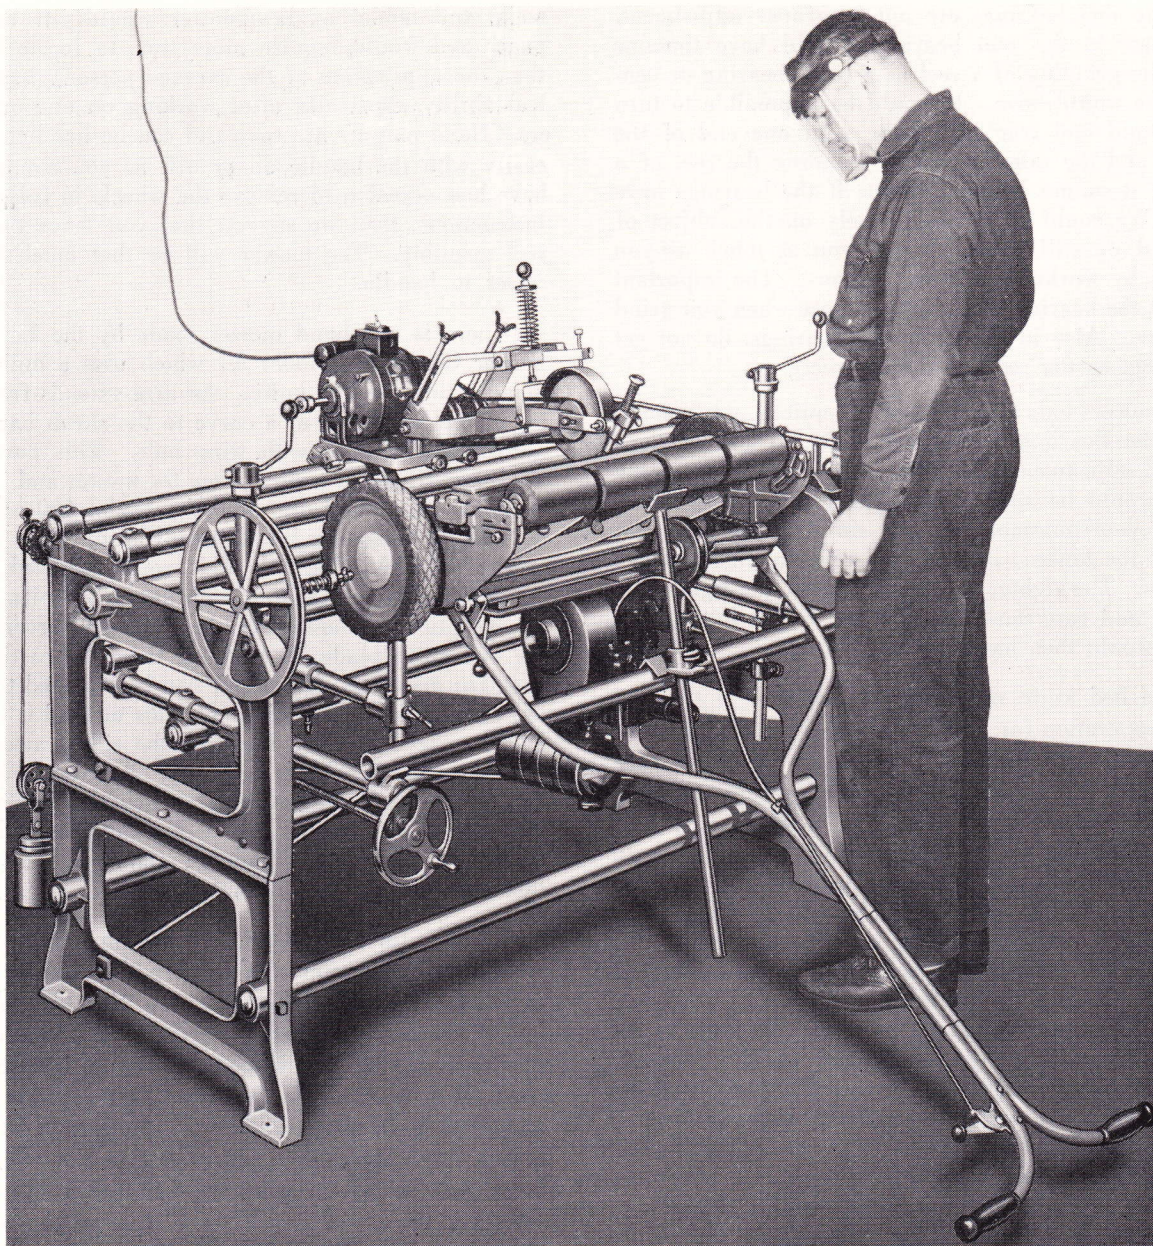
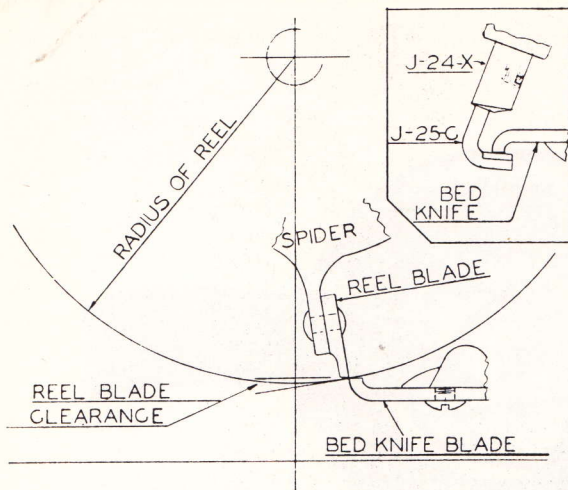

Fig. 14
Fig. 15
74. Choose the most suitable pair of mower supports for the mower to be sharpened and place them in position in the Peerless. If the point supports are used, pre-set them by measuring the hole spacings on the mower. Place the mower in the Peerless inverted as shown in the various illustrations. Figure 14 shows a home-type power mower in position. Place the roller support assembly under the roller and adjust the roller rest supporting pipe in or out until the roller support is about vertical. (See Fig. 14). The roller rest supporting pipe is adjusted by moving the supporting castings on the P-447 shafts at either side of the machine.
level, (as though it were in mowing position set up side down). See Fig. 14. This should make the bottom of the bed knife blade about level as in Fig. 15. Move the mower supports out against each side frame to eliminate any possibility of side movement of the mower (unless point supports are used).
78. Next set the bevel to be ground on each reel blade and, in so doing, the mower will be further positioned for grinding. With the straight line grinding feed screw (#S-45, Fig. 2) backed away until it is not contacting the grinding carriage arm, the grinding head is lowered until the hook is from 1" to 1½" above the bed knife of the lawn mower. The grinding arm is locked in this position by tightening the two wing nuts (#J-80, Fig. 2). The spreader assembly (# J-16, Fig. 1) is now depressed and the hook engaged under the front edge of the bed knife in the middle of the mower. If the mower does not fall in line with the hook it must be moved in and out with the horizontal adjustment cranks at either side of the machine (# P-230, Fig. 1) until the hook will engage under the front edge of the bed knife and extend back about $\frac{1}{16}$ " to $\frac{1}{8}$ " from the cutting edge. (See Fig. 15).
85. With the feed weight connected, you are ready to grind your first mower. We would suggest that you add at least one extra weight to the feed weight, and later on you may wish to use both for taking heavier cuts. The weight feed works better with a little oil applied to the surface of the hook and to the underside of the bed knife blade where the hook slides. (See inset in Fig. 15.)